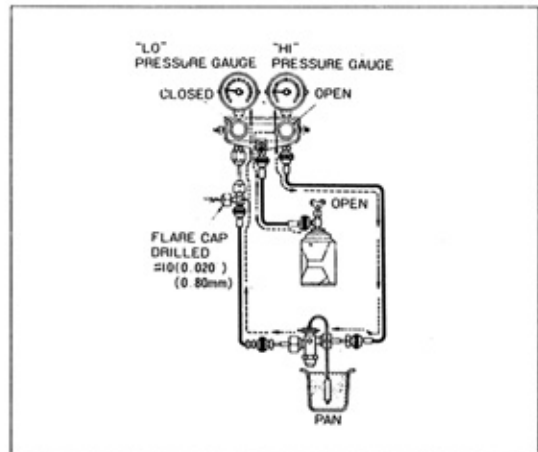

Fig. 80
- a) Connect the gauge manifold set, expansion valve and service drum with the charging hoses as shown in Fig. 80.